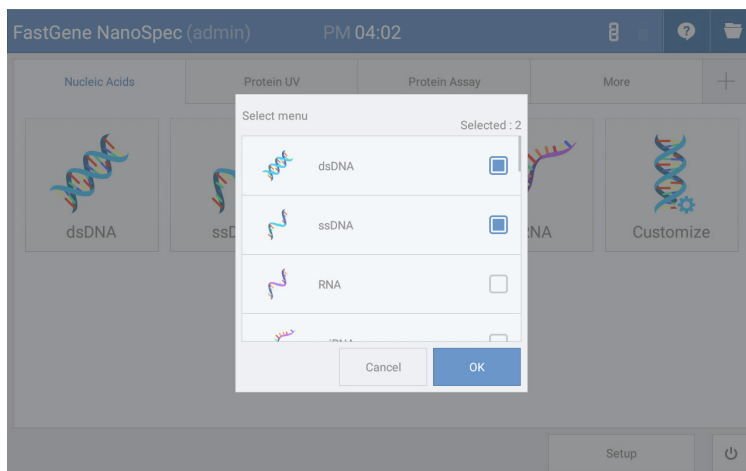

Fig. 1.4
3. [Fig. 1.4] Select the mode to be included in the newly created user menu and click the “OK” button.